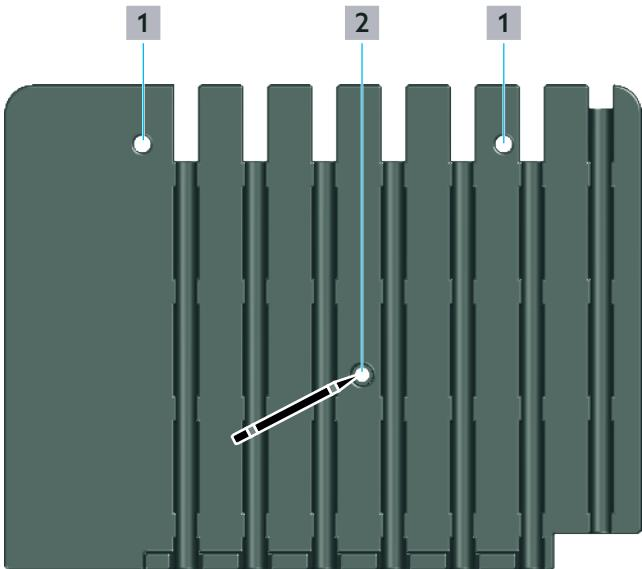

Fig. 7: Hanging up the insulation
- 2 Mark the fixing point for the dowel screw with a pen (position 2 in Fig. 7 on page 17).
- 1 Place the spacer (position 3 in par. 6.1 on page 16) into the recess for dowel screw (position 2 in Fig. 7 on page 17).